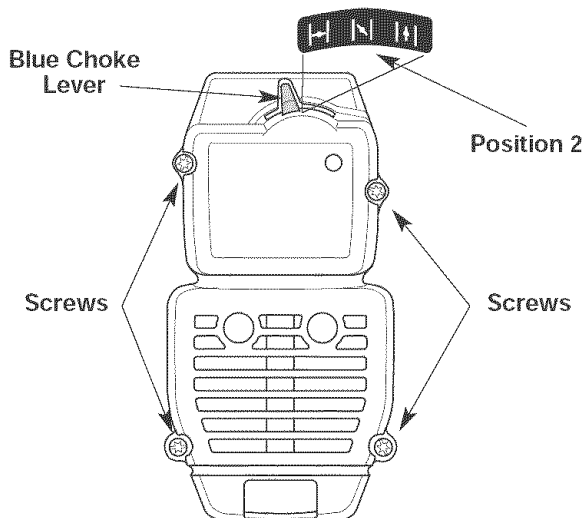

Fig. 21
1. Place the blue choke lever in Position 2 (Fig. 21).
2. Remove the four (4) screws securing the air filter/muffler cover (Fig. 21). Use a flat blade or T-20 Torx bit screwdriver.
2. Insert the four (4) screws into the holes in the air filter/muffler cover (Fig. 21) and tighten. **Do not over tighten.**